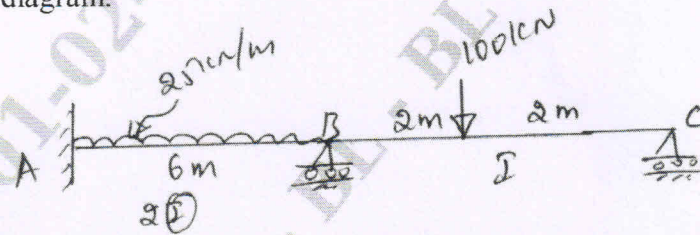

Fig. Q10
- 10 Analyse the continuous beam shown in Fig. Q10 by direct stiffness method and draw bending moment diagram.